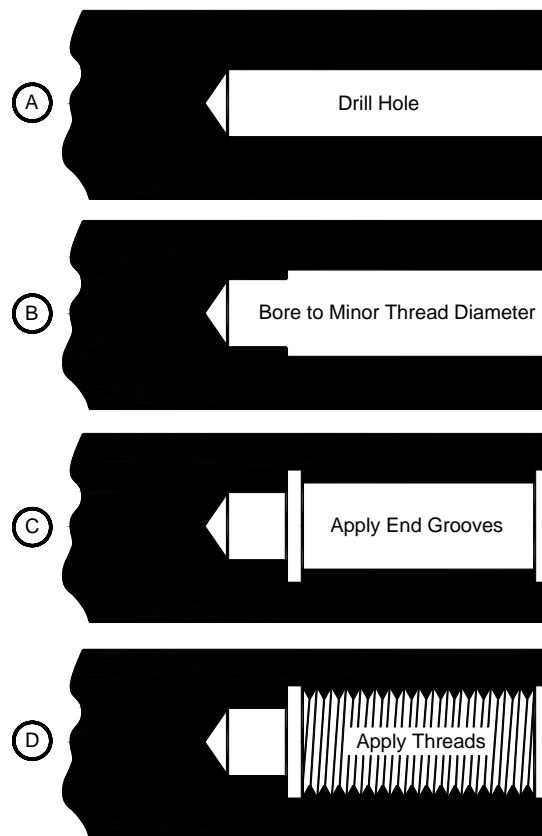

Figure 7-148. Preparing the workpiece for internal threading.
2. In the workpiece, drill or bore a hole of the threads' minor diameter, Figure 7-148 (b). This diameter may be obtained from *Machinery's Handbook*.
3. Where the thread does not run completely through the work, use a square-nose tool inside the workpiece to cut a groove where the threads end. This makes it easier to start or stop the threading process because there is no abrupt end of the thread. See Figure 7-148 (c).
4. Cut a recess in the open end of the workpiece equal to the threads' major diameter so the thread depth can be observed during threading. See Figure 7-148 (c).